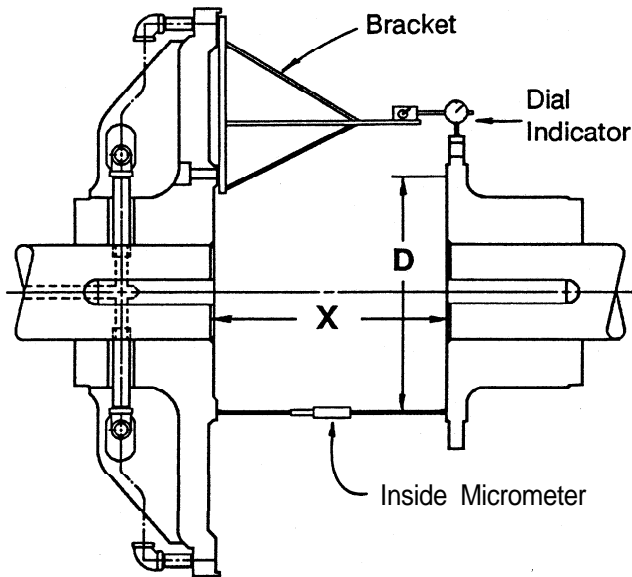

Fig. 9
Not to exceed 0.0005 inch per inch (.0005mm/mm) diameter at which readings are taken ("D" on Fig. 9).
- 2.4.1 Foundations must be set so distance "X", shown on Figure 9, is established. If the clutch is mounted on a shaft having plain bearings, make sure the shaft is centered within the bearings when establishing the "x" dimension. Refer to Table 2 for appropriate "X" dimensions.
TABLE 2 - "X" DIMENSIONS (FIG. 9)
- 2.4.2 Fabricate a rigid bracket for supporting a dial indicator and attach to the spider. See Figure 9.